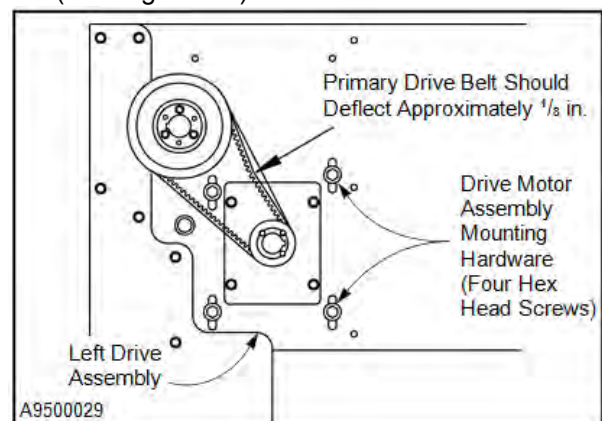

Figure 39
3. Loosen the four hex head screws securing the drive motor assembly to the left drive console. (See Figure 39.)
4. Adjust the primary drive belt tension by sliding the drive motor assembly up or down to decrease or increase the belt tension. (See Figure 39.)